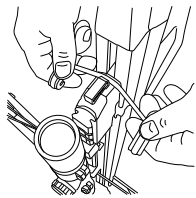
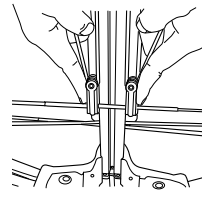

Figure 11
Figure 13
- 5.3 Place the center of the cocking rope in the rope groove provided behind the sight bridge (See Figure 11&12). The cocking handles should be positioned to the outside. Pull both cocking hooks simultaneously down along the flight rail and attach them to the bowstring directly alongside the flight rail (See Figure 13). **TIP - For maximum accuracy hooks must stay against the flight rail during cocking operation.**